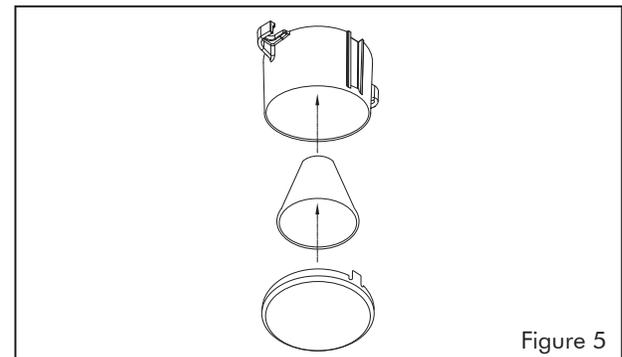

Figure 5
14. Assemble optic assembly (see figure 5).